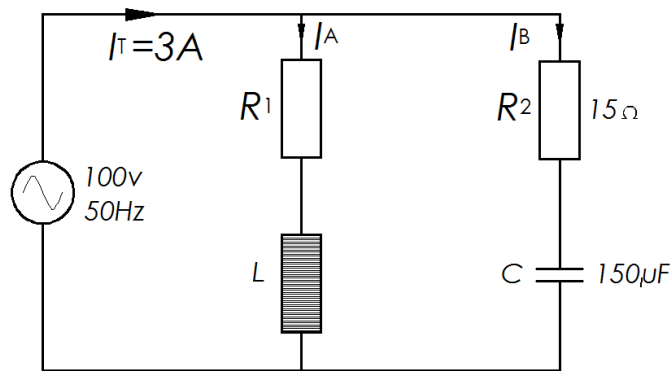

Figure 1.40
11. Study **Figure 1.40** and calculate the following: